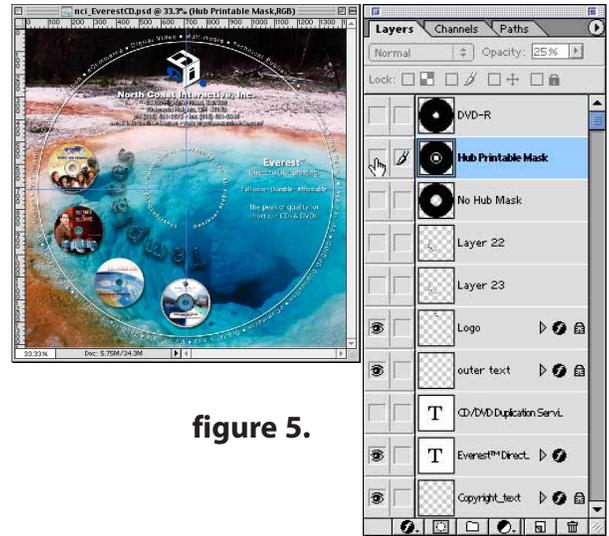

figure 5.
7.) Once all the elements in the design are properly placed, turn off the mask layer and "Save as" a tif file. (figures 5 & 6)